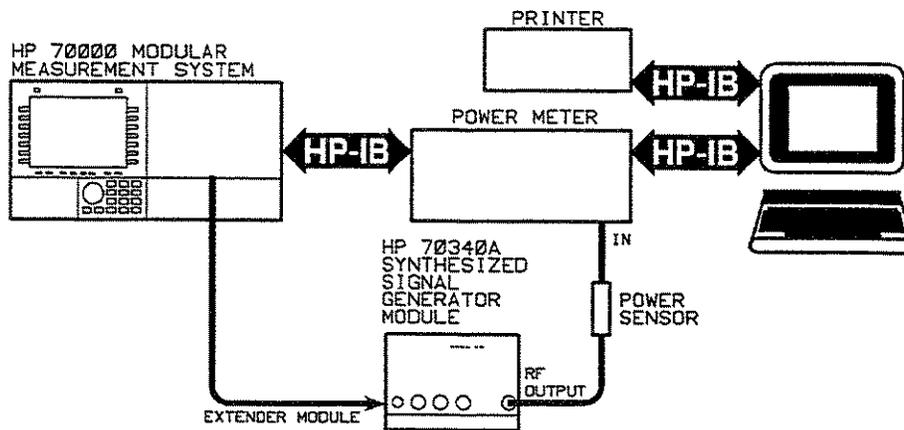

Figure 3-5. Frequency Calibration 2 Equipment Setup
2. Set up the equipment as shown in Figure 3-5.